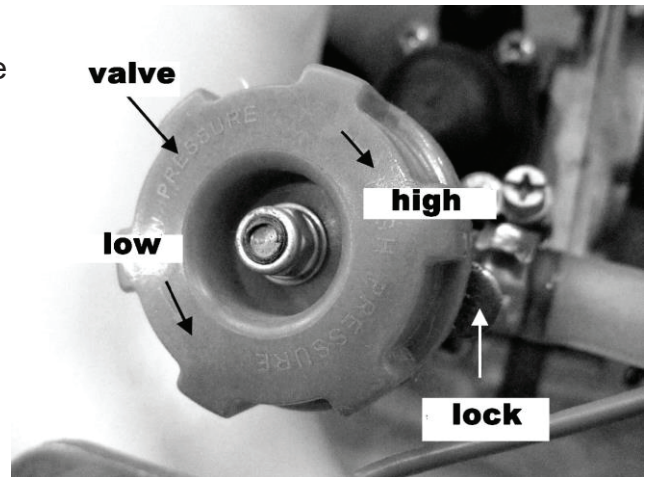

Figure 5
5.3.4 Pressure regulation. When the engine's speed is 5000-6000rpm, regulate the water pressure of the plunger pump. If it is necessary to regulate, please do this procedure as per the instructions on Figure 5.